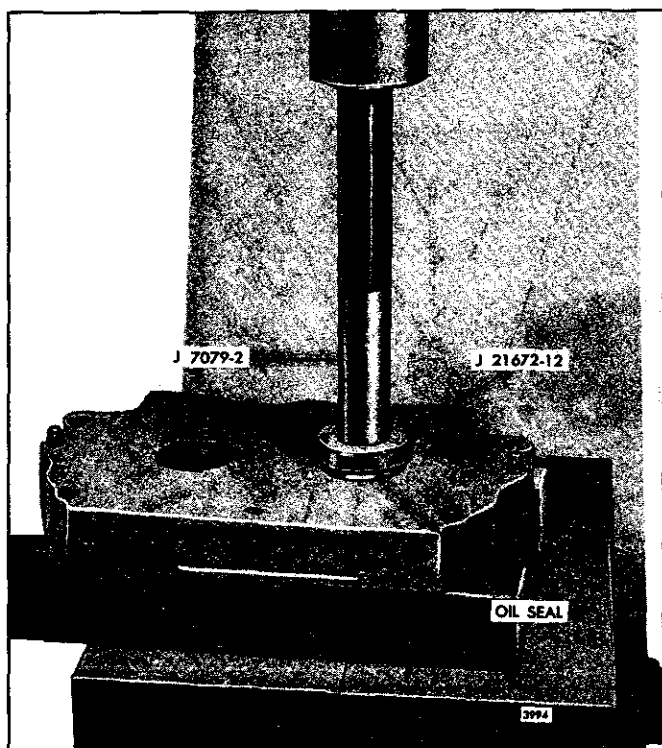

Fig. 11 – Installing Oil Seal in Rear End Plate
- c. Place the oil seal installer J 21672-12 with handle J 7079-2 on top of the oil seal as shown in Fig. 11. Then press the oil seal straight into the end plate until the shoulder on the installer contacts the end plate.